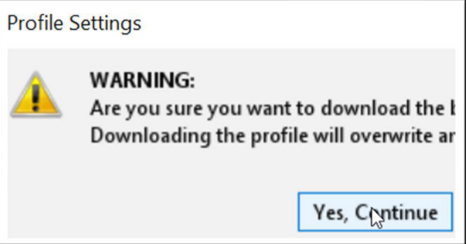

fig. 5 – Orion BMS Jr connection software warning.
- Acknowledge Warning** – When the warning message appears, click "Yes, Continue" to begin downloading the current settings from the mower's BMS. (fig. 5)